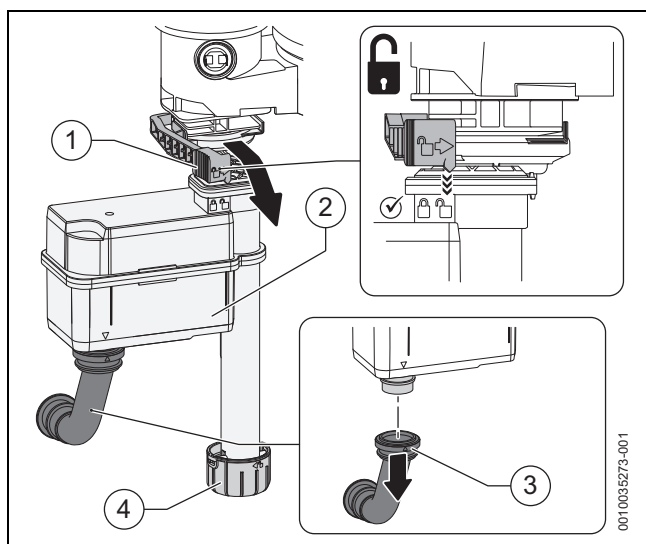

Fig. 79 Removing the siphon
Refer to figure 79.
- ▶ Remove the dirt trap [4] (→ figure 79) at the bottom and clean it.